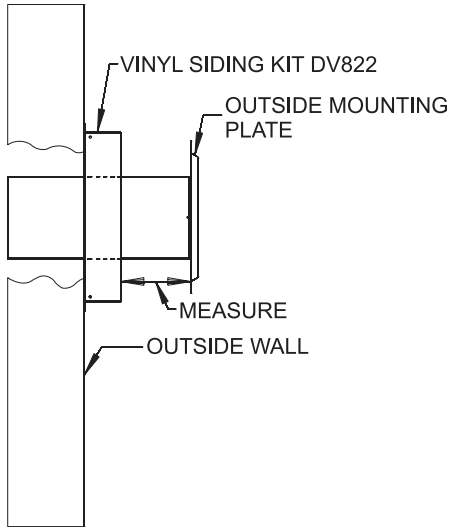

Figure 60
6. With the vinyl siding kit installed to wall (if necessary), insert the 6 5/8" (168mm) diameter tube with outside mounting plate attached through hole in wall. Connect to collar on fireplace or rigid vent system. Measure between wall or vent cap extension and outside mounting plate. **See Figures 60 and 61.**